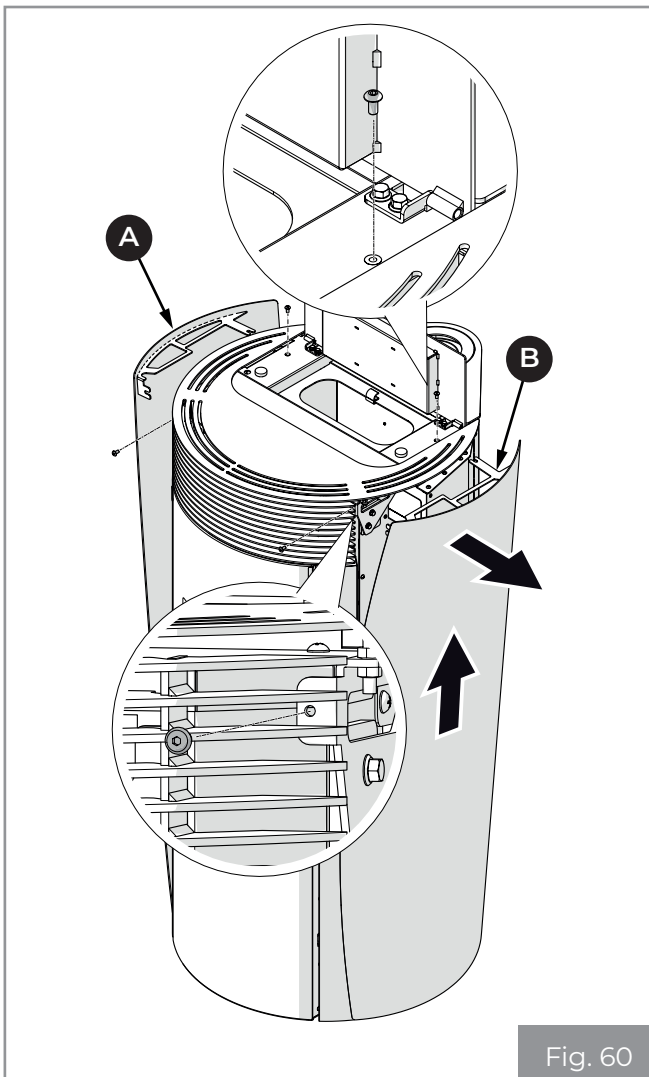

Fig. 60
- Remove the sides **(A)** and **(B)** (**Fig. 60**).